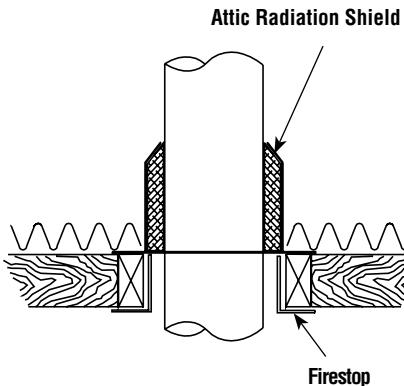

**Figure 22 - Roof Framing**
1. Cut and frame the holes in the ceiling, floor and roof where the chimney will pass (see **Figure 22**). Use a plumb-bob to line up the center of the holes. The sizes are indicated in **Table 2** for the floor and ceiling holes and **Table 3 (Page 15)** for the roof holes.